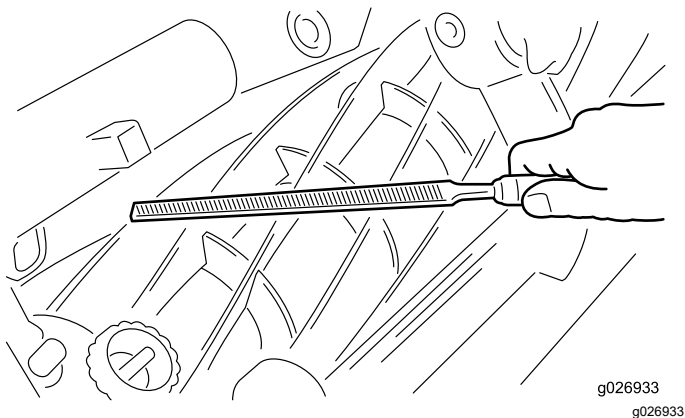

Figure 10
4. **Hitting a Foreign Object** – The bedknife and the reel cutting edges can be damaged if a foreign object is hit. The damage, if it is not too severe, can be repaired in the field. Start by filing down high spots on the bedknife and the reel (Figure 10). Use a ball peen hammer to straighten any reel blades that may be bent. Since the bedknife usually springs away from the reel upon impact, the bedknife must be adjusted; refer to Parallel the Bedknife to the Reel.